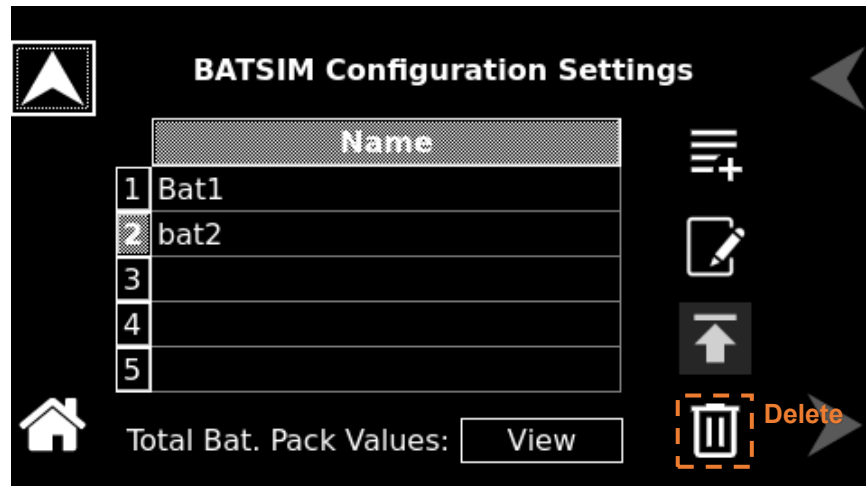

**Figure 12-21. BATSIM Configuration Settings - Upload Disabled and Delete option**
- The ‘Upload button’ will be disabled when the configuration is uploaded to the unit. Refer to Figure 12-21.
- Click on 'Delete' to remove the selected BATSIM configuration. Refer to Figure 12-21.